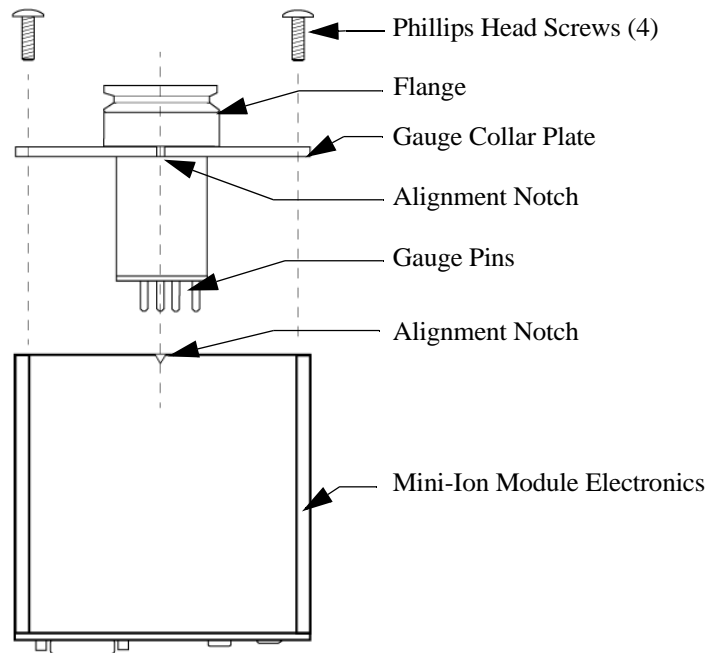

Figure 4-5 Mini-Ion Vacuum Gauge Module Replacement
4. Remove the four Phillips-head screws from the gauge collar plate as shown in Figure 4-5.
5. While holding the flange, gently pull the Mini-Ion Vacuum Gauge Module away from the gauge collar plate as shown in Figure 4-5. The gauge tube and plate will disconnect from the module.
6. Align the notches on the replacement gauge collar plate and the Mini-Ion Vacuum Gauge Module as shown in Figure 4-5.